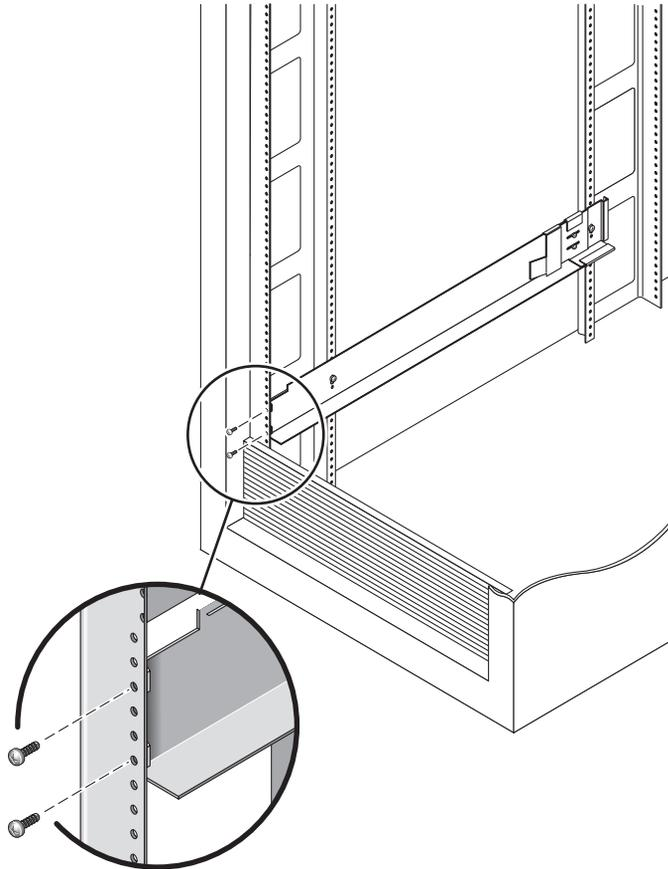

FIGURE 2-5 Securing the Front of the Left Rail to the Cabinet
5. Using the #2 Phillips screwdriver, insert two 8-32 screws in the front of the left rail to secure the rail to the front of the cabinet (FIGURE 2-5). Repeat for the right rail.